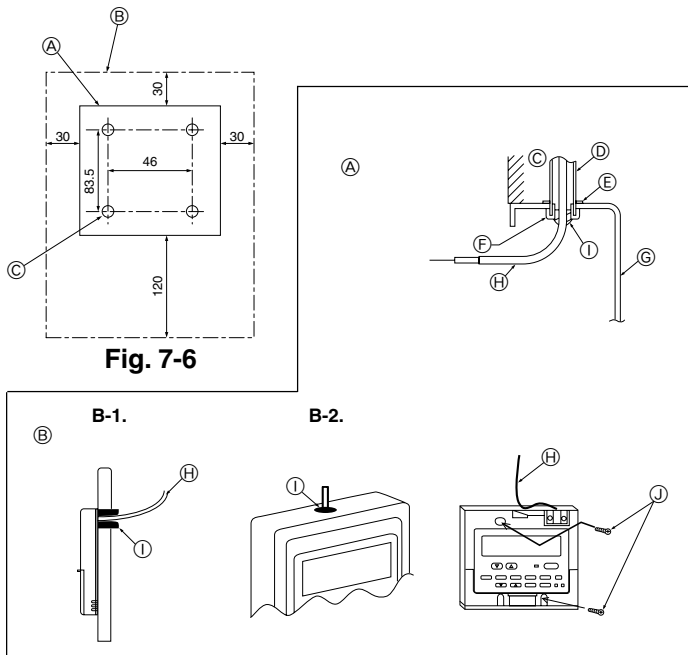

Fig. 7-7
- ① Remote controller profile
- ② Required clearances surrounding the remote controller
- ③ Installation pitch
- (2) Seal the service entrance for the remote controller cord with putty to prevent possible invasion of dew drops, water, cockroaches or worms. (Fig. 7-7)